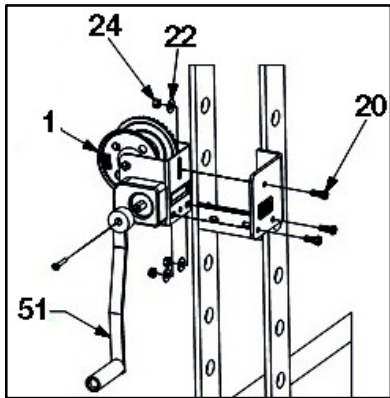

Fig. 7: Install winch
8. Install the Winch [item #1] to the Left Hand Upright Frame Weldment [item #10], as shown in Fig. 7, using (3) 3/8" X 1" grade 5 Cap screws [item #20], (3) 3/8" Washers [item #22], and (3) 3/8" Nuts [item #24].